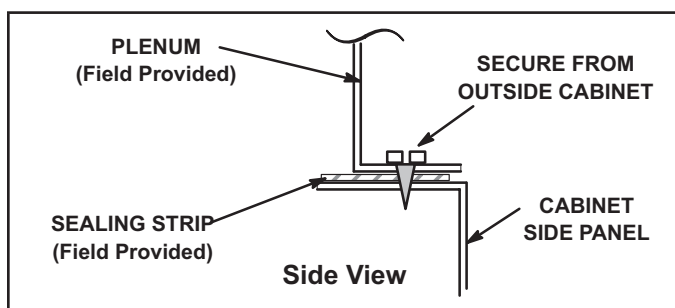
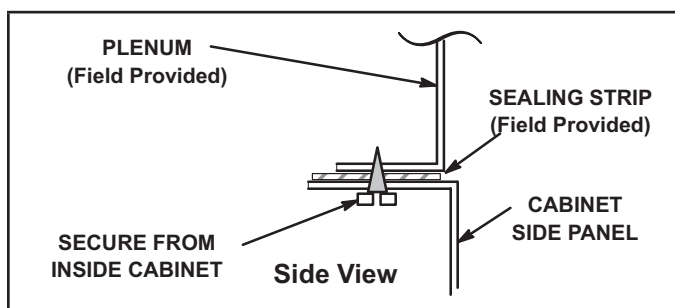

Figure 17
Figure 18
- 1 - Bottom edge of plenum should be flanged with a hemmed edge (See Figure 17 or Figure 18).